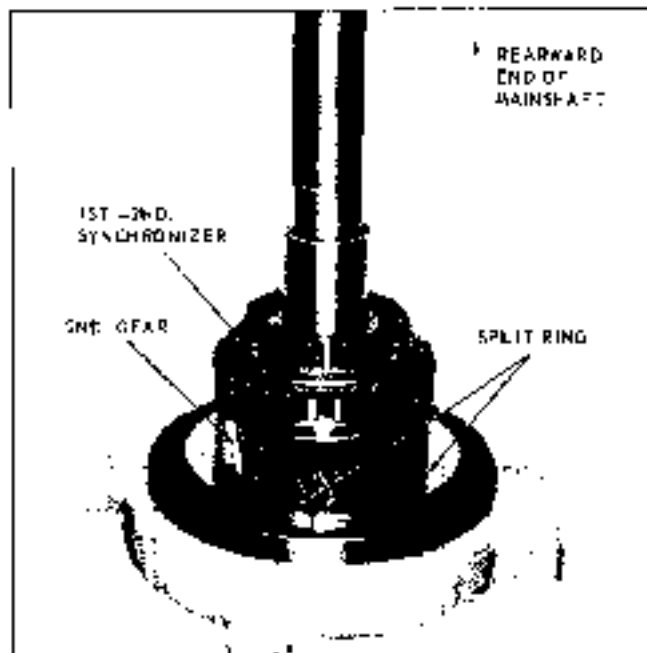

Fig. 70-12 Removing 1st and 2nd Synchronizer and Second Gear
12. Remove the 1st and 2nd synchronizer snap ring from mainshaft and press synchronizer assembly, 2nd speed blocker ring and second speed gear off end of mainshaft (Fig. 70-12).